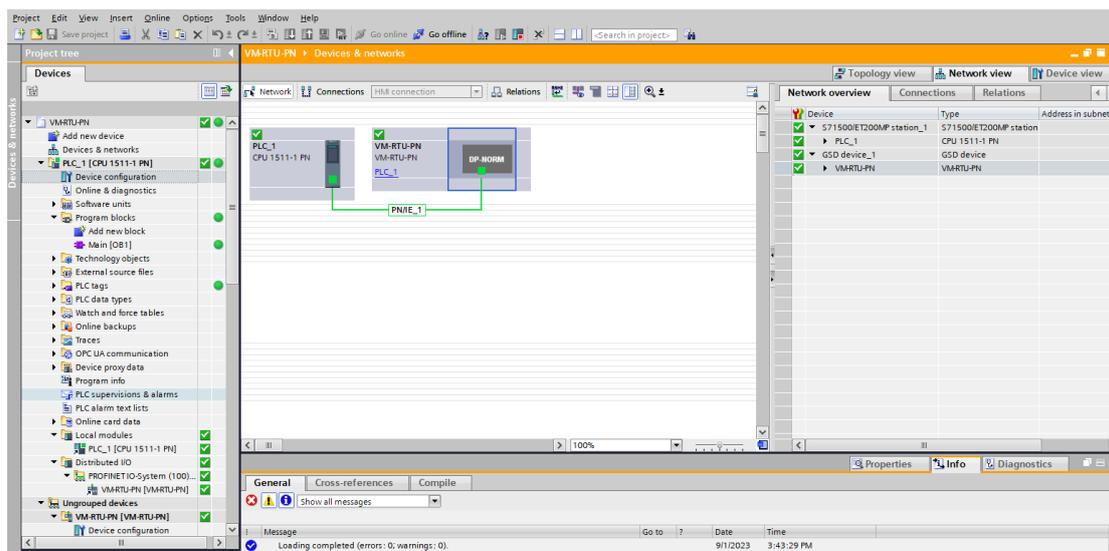

Figure 10 Device configuration completed
1. Click on "Compile" - "Hardware Complete Rebuild", and then "Hardware configuration download", and the hardware configuration download is complete. Click "Compile" - "Software rebuild", download the software (all download), click "Go online" communication will show a successful check as shown in Figure 10